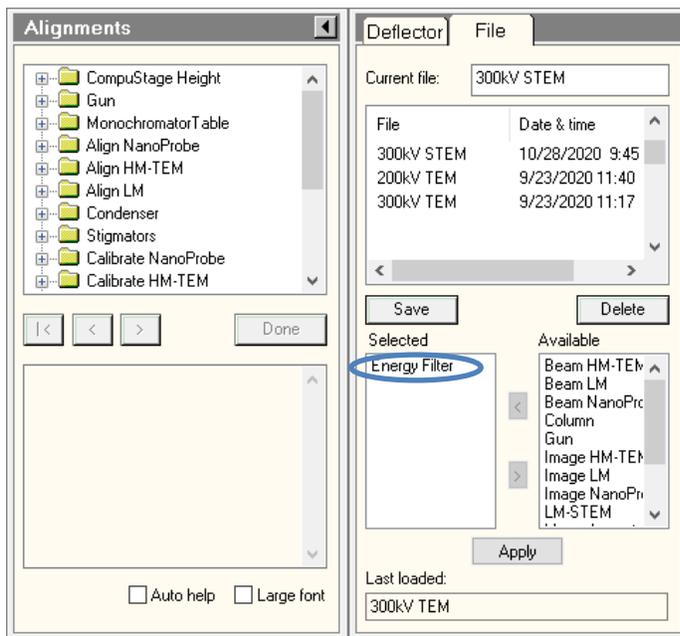

Fig. 3. Loading of Selectris alignment file in the user interface.
When the Selectris has not been tuned for a long time or is severely misaligned it is advised to start with loading the latest alignment in the Alignment tab in the user interface (UI) (Fig.3).